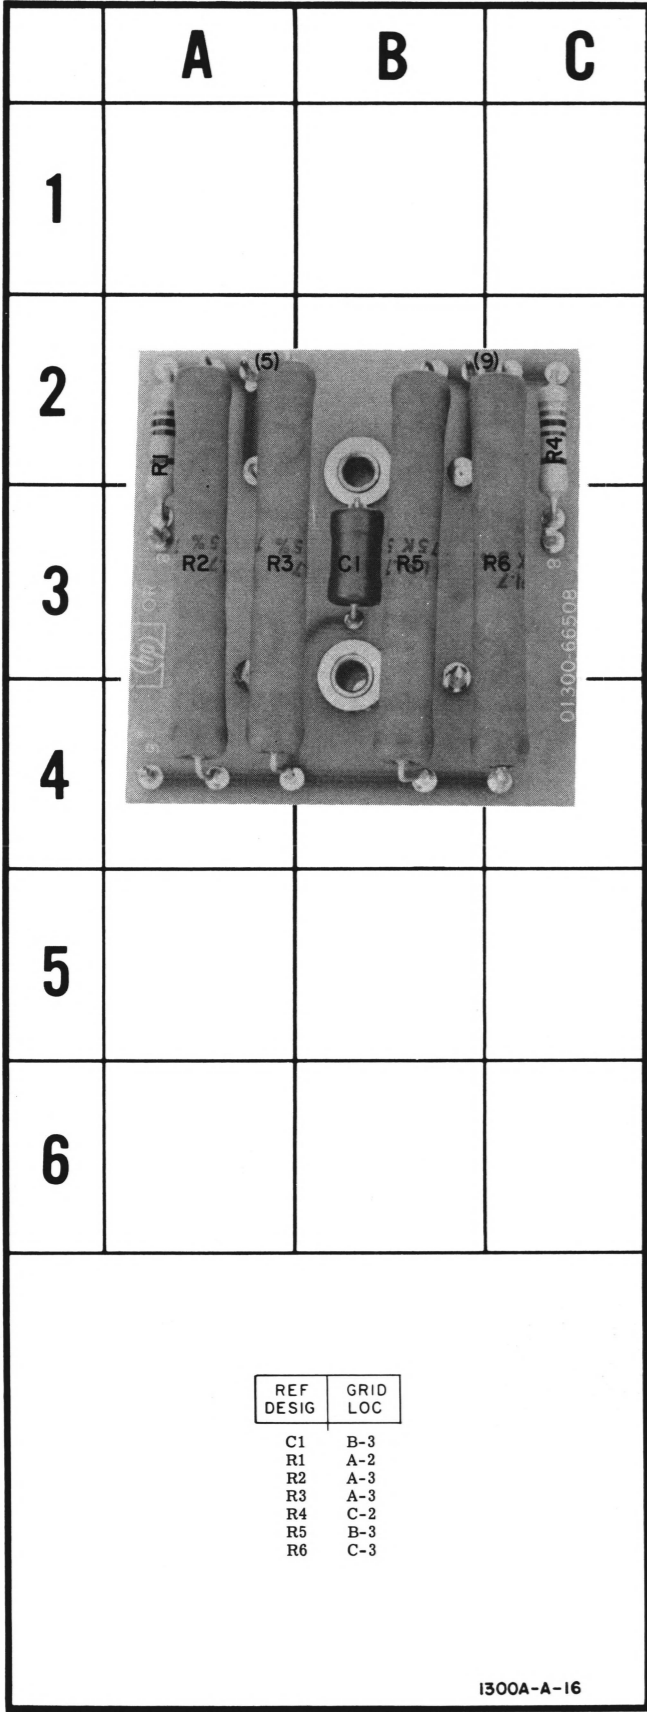

Figure 8-8. Horizontal Load Assembly Component Identification, A2A2
8-18. The Deflection Amplifier Load Assemblies A2A1A2 and A2A1A3, are mounted on the Deflection Amplifier board A2A1. Figure 8-8 shows the two sub-assemblies which go together to make up these assemblies. To remove these assemblies proceed as follows:
- a. Remove all of the clip-on leads attached to the circuit board. Figure 8-8 indicates the correct color to pin connections for reassembly.